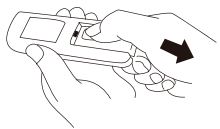

Fig.1
- b) Open fuse cover. Slide open fuse access cover on top of attachment plug towards blades. (Fig. 1)